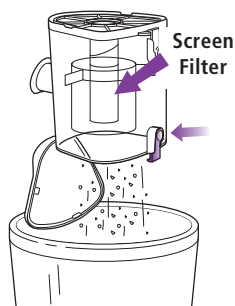

Fig. 19
- If needed, turn the dust cup upside down over the trash receptacle and press the top door release button. (Fig. 19) Tap gently to remove contents.